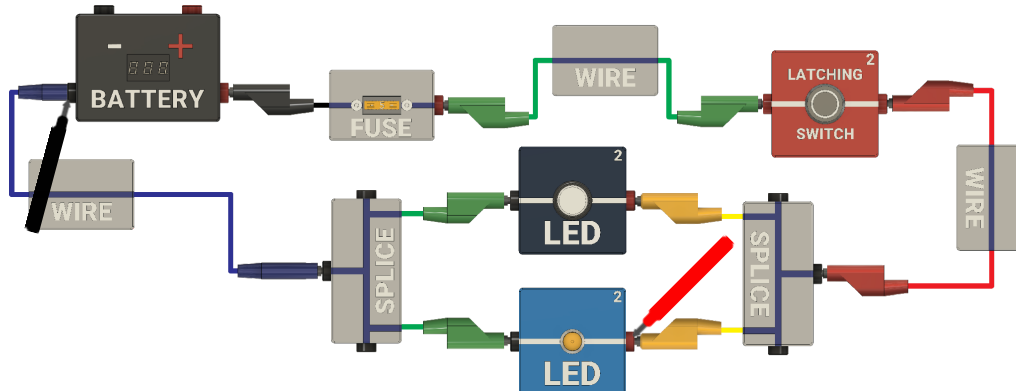

Figure 7: Voltage Measurement at small LED 2
- Move the multimeter's positive probe to the connection point just before small LED 2 See Figure 7